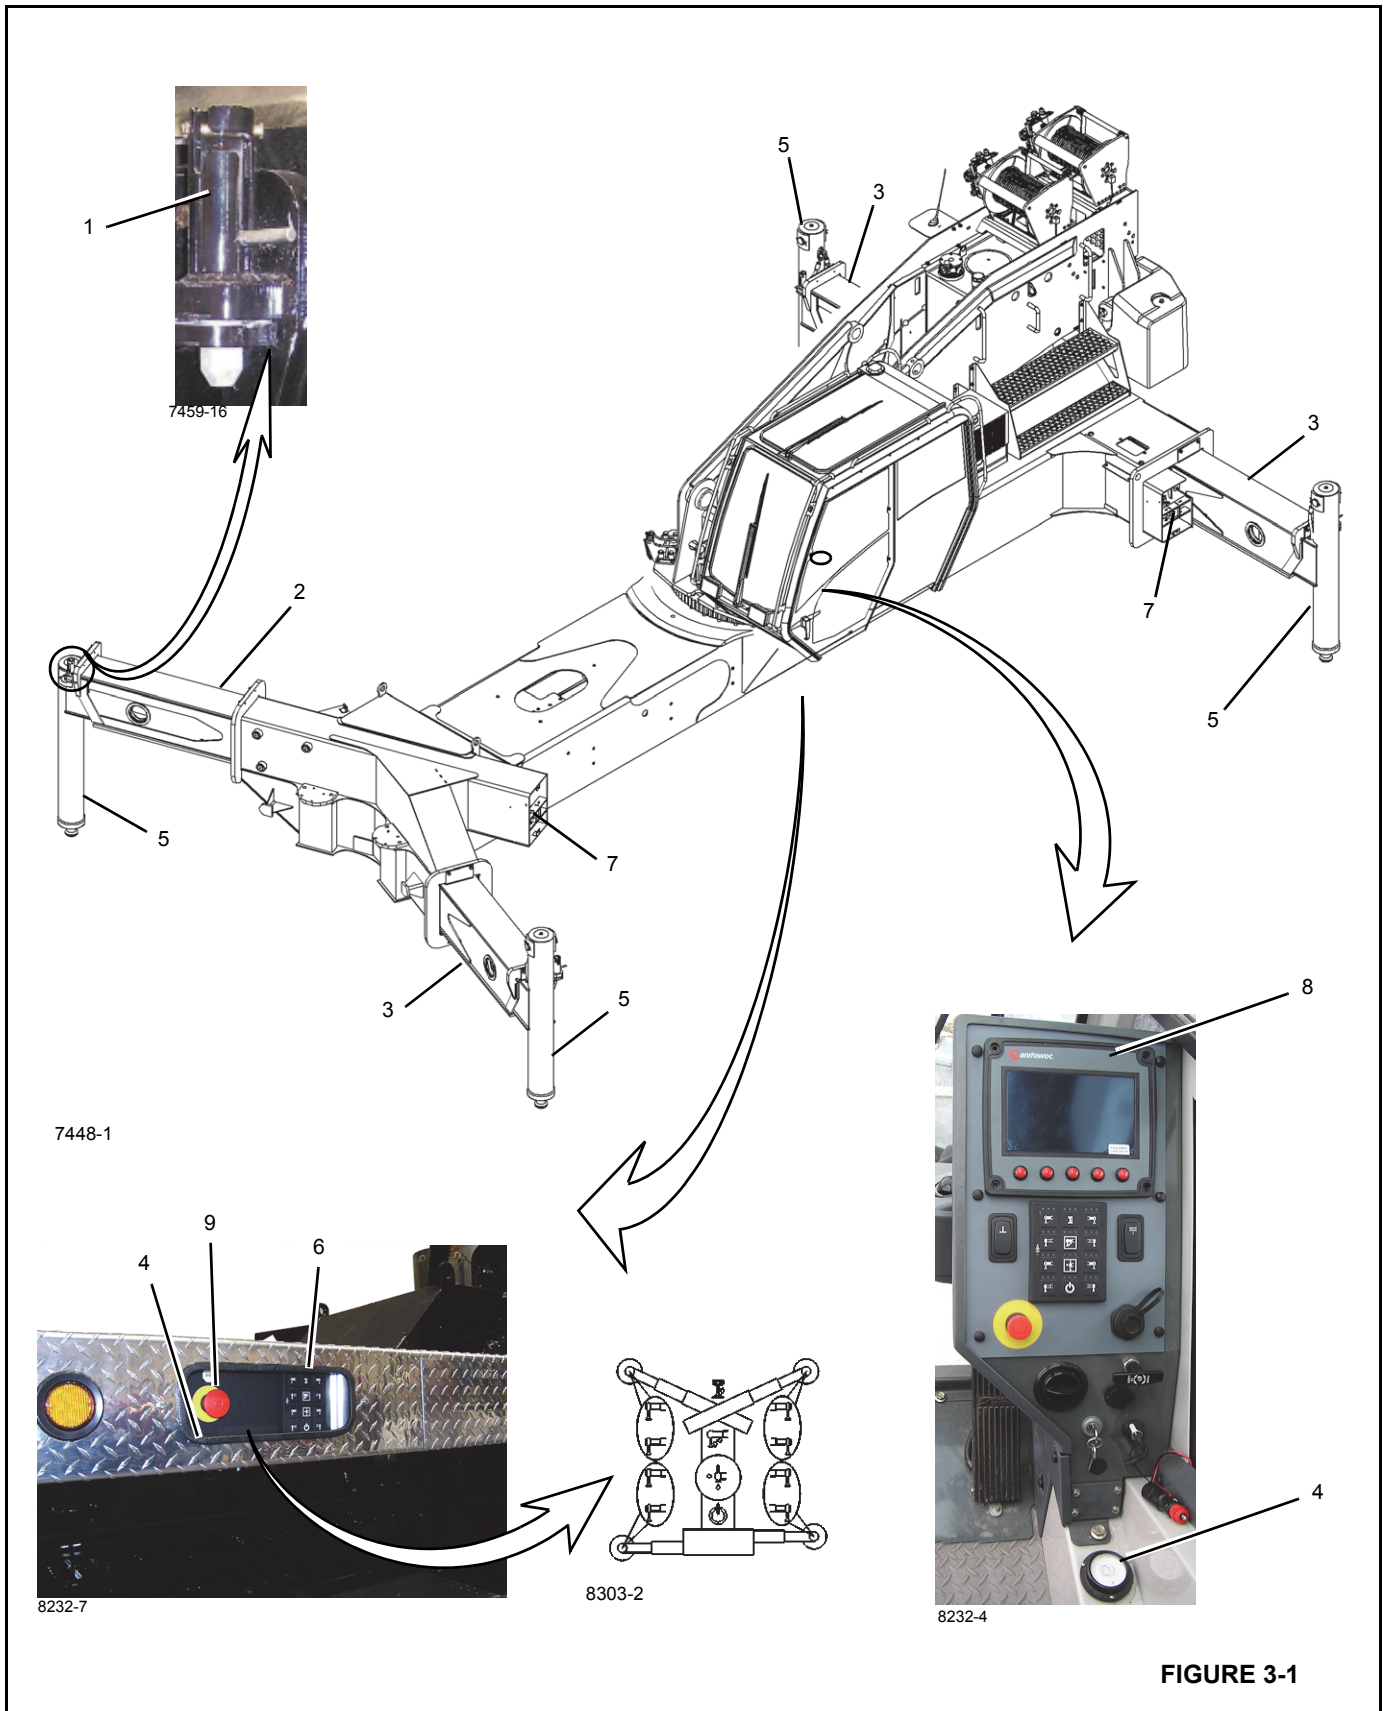
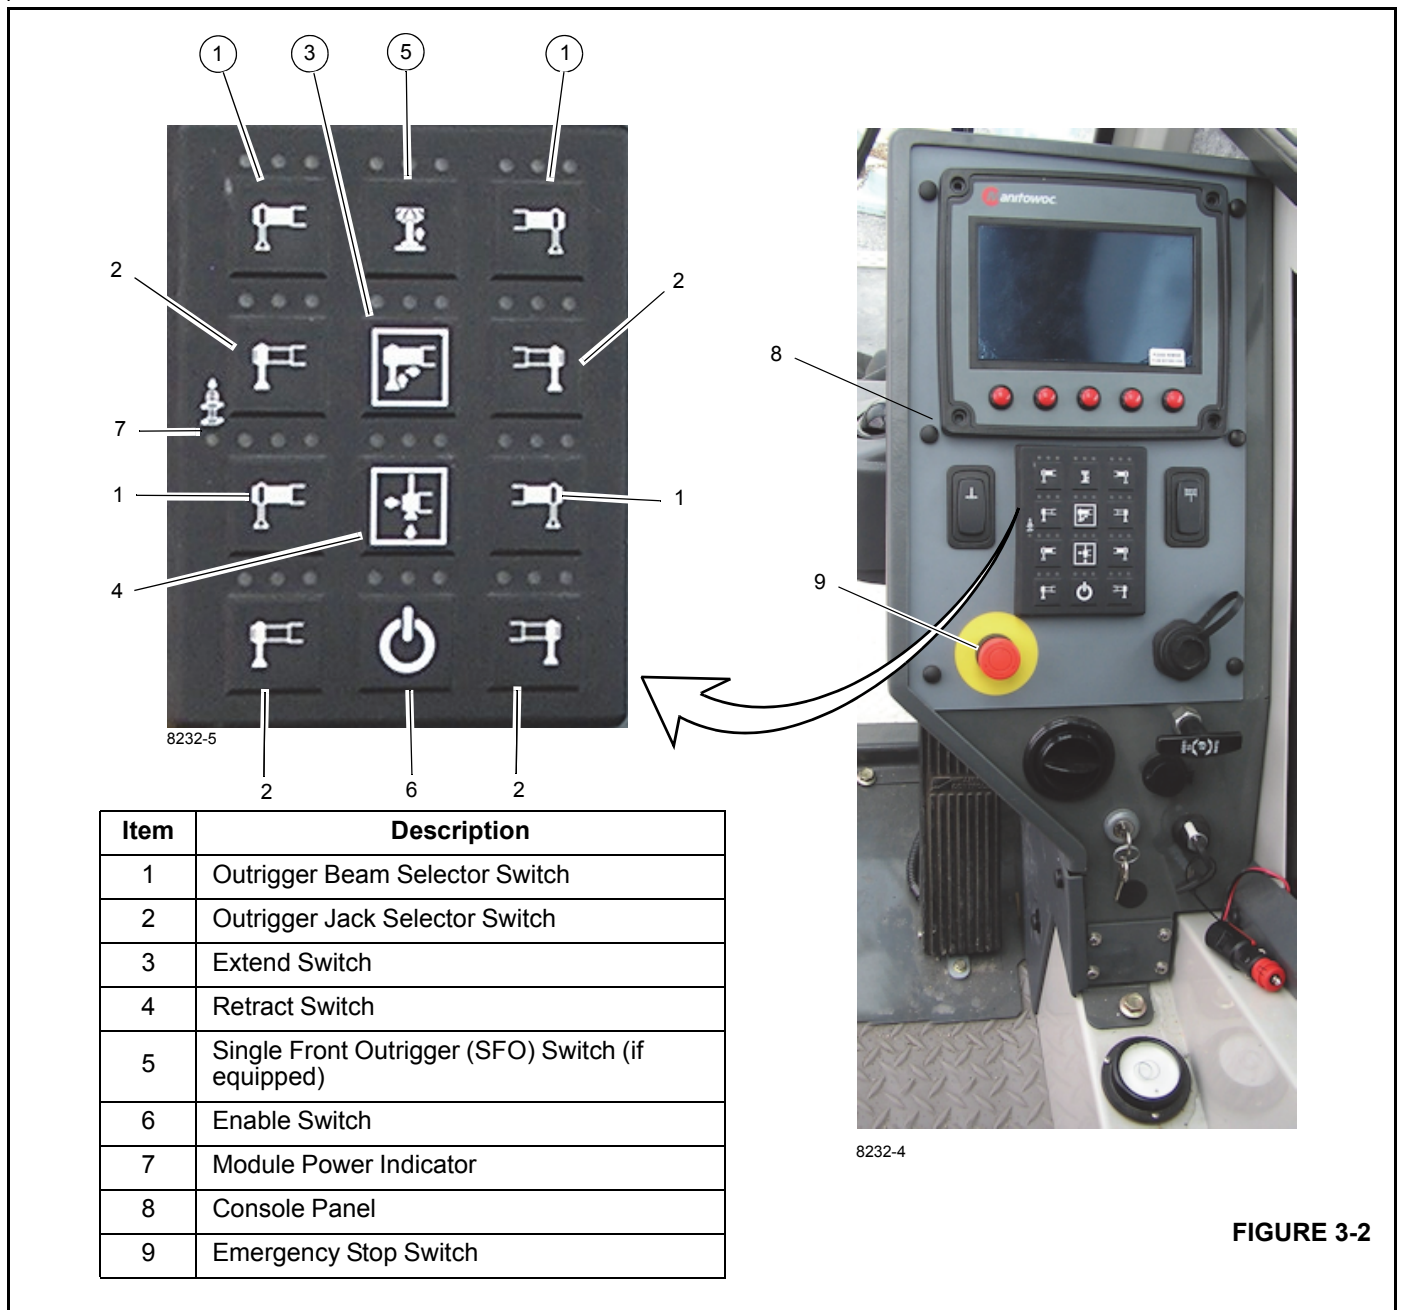

FIGURE 3-1
FIGURE 3-2
The outriggers can be operated from three locations, including a controller located (Figure 3-2) on the crane cab console and two ground station control panels located on the left and right sides of the carrier decking. Each controller contains the control switches for extending and retracting the outrigger beams, for raising and lowering the outrigger jack cylinders and for raising and lowering the single front outrigger (SFO) -if equipped.
The cab outrigger control panel (Figure 3-1) is located on the superstructure cab front console panel (8) and is used to control the outriggers from inside the cab. The control panel contains a touch pad with control switches and indicators for extending and retracting the outrigger beams, for raising and lowering the outrigger jack cylinders and for raising and lowering the single front outrigger (SFO) - if equipped. The station contains a level indicator and an emergency stop switch. All outrigger functions can be controlled from the cab control panel.
The ground station control panels are located on the left and right sides of the carrier decking (Figure 3-1). Each control station has a touch pad with LED indicators, control switches for extending and retracting the outrigger beams, for raising and lowering the outrigger jack cylinders and for raising and lowering the single front outrigger (SFO) - if equipped. Each station contains a level indicator and an emergency stop switch.
There is a outrigger control panel located on each side of the crane, as shown in Figure 3-1 and Figure 3-2. The following details apply to both control panels as indicated.
There are four outrigger beam selector switches (1) located on each outrigger control panel (Figure 3-2).
There are four outrigger jack selector switches (2) located on each outrigger control panel (Figure 3-2).
The enable switch (6) is located on each outrigger control panel (Figure 3-2) and is used in conjunction with the
The extend switch (3) is located on the outrigger control panel (Figure 3-2) and is used in conjunction with the enable switches (6) to control both the outrigger beams or the jacks functions.
The retract switch (4) is located on the outrigger control panel (Figure 3-2) and is used in conjunction with the enable switches (6) to control both the outrigger beams or the jacks functions.
LED indicators display the status of the control switch being selected (Figure 3-2) on the outrigger control panel. A LED will illuminate for 5 second after a switch has been selected.
The module power indicator (7) is located on each outrigger control panel and indicates the outrigger control station panel (Figure 3-2) is activated when a green LED illuminates. The control station can not be activated if the crane is performing another function. (For example: operating the boom.)
The outrigger beam selector switches (1, Figure 3-2) are used to operate the front or rear outrigger beams. Both sides can be operated from the cab outrigger control panel.
The ground control outrigger beam selector switches (1, Figure 3-2) are used to operate the front or rear outrigger beam only on the side of the crane the ground control is located.
Use the outrigger jack selector switches (2, Figure 3-2) to indicate which jack you desire to operate.
The single front outrigger (SFO) switch (5, Figure 3-2) is located on the outrigger control panel (if equipped).
There is an emergency stop switch (9, Figure 3-2) located at each outrigger control on each side of the carrier and inside the cab on the front console (9, Figure 3-3). Pressing an emergency stop switch shuts down the engine.
A bubble level indicator (Figure 3-1) is located on the right interior wall of the cab and on each ground station outrigger control panels located on the lower frame decking. The